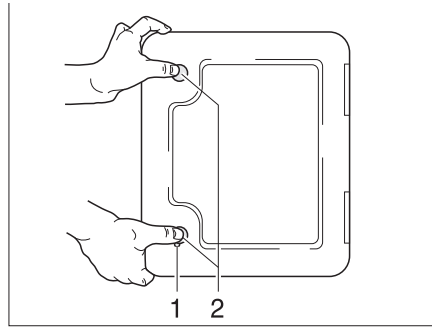

Fig. 142 Flap for Thetford cassette
The flap for the Thetford cassette (Fig. 142) is located on the outside of the vehicle.
- Insert key into locking cylinder of the push-button lock (Fig. 142,1) and turn a quarter turn clockwise.
- Press both push-button locks (Fig. 142,2) simultaneously with your thumb and open the flap for the Thetford cassette.